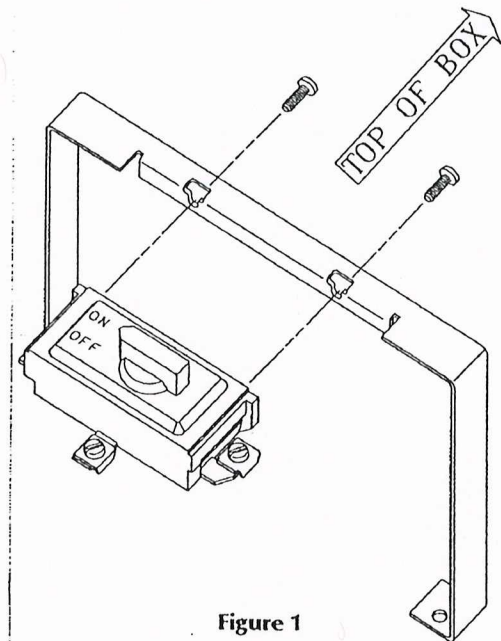

Figure 1
2. Attach the Class 9999, Type BLX mounting bracket to the enclosure with the two thread-forming #8-32 screws provided with the bracket kit. Refer to Figure 1 for proper orientation of bracket.
3. Loosen the two selector switch mounting screws and attach switch such that flange is flush with top of bracket. See Figure 1.